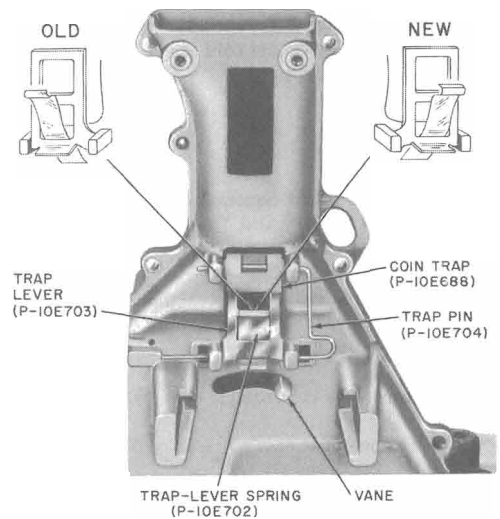

Fig. 2—Trap Lever Spring and Trap Lever Assembled
- (1) Move vane to right (Fig. 2).
- (2) Remove trap pin by sliding vertical portion over boss on front of hopper and sliding to the right.
- (3) Turn coin trap sideways and remove through opening. Handle trap lever spring carefully.
Note: If trap-lever spring becomes damaged, use a new P-10E702 spring (Fig. 2).